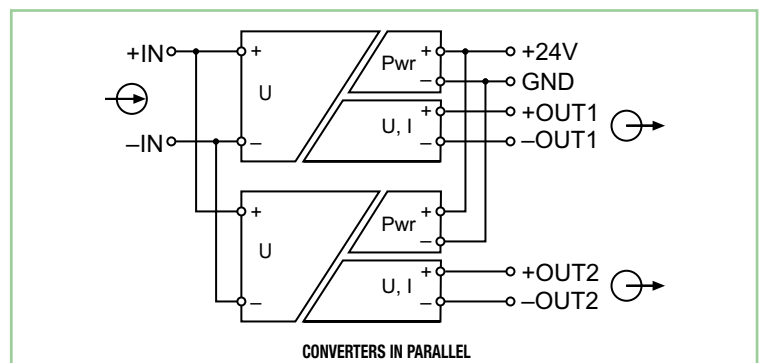

fig. 7
- In case of voltage signals, the converter input will be connected in parallel (fig. 7)